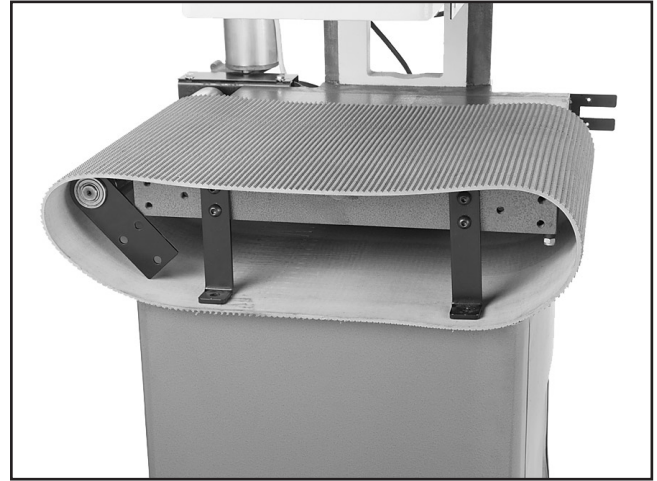

Figure 43. Conveyor belt partially removed from the sander.
- With assistance, carefully lift the sanding assembly up and remove the conveyor belt, as shown in **Figure 43**.